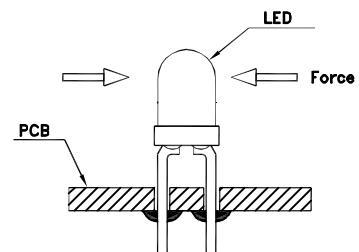

Fig. 9
6. After soldering or other high-temperature assembly, allow the LED to cool down to 50°C before applying outside force (Fig. 9). In general, avoid placing excess force on the LED to avoid damage. For any questions please consult with Kingbright representative for proper handling procedures.